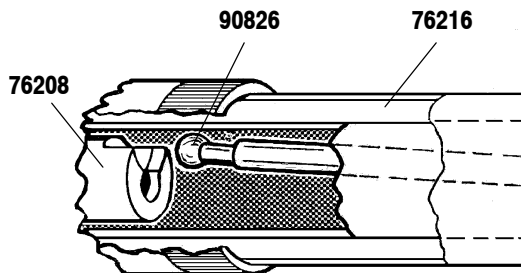

FIGURE 4
- Check to see if the connecting rod has disassembled from the mating rod. See assembly of lower pump end (figure 4).